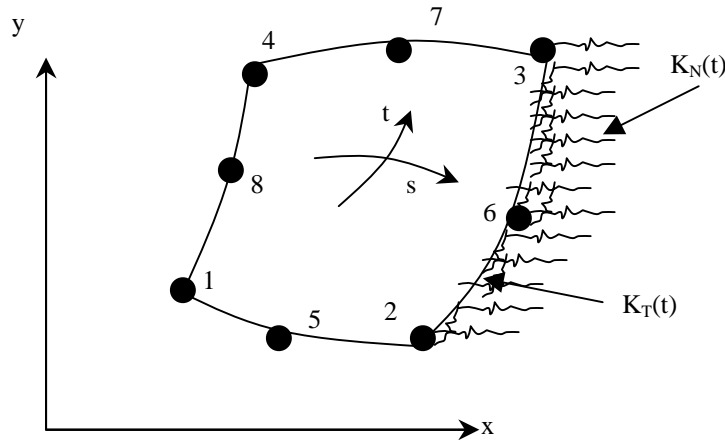

Figure 3
4) You have decided to use 8-node quadrilateral isoparametric element for a plane stress problem (Figure3). A uniform distributed load with b_x intensity is applied at edge2-3.